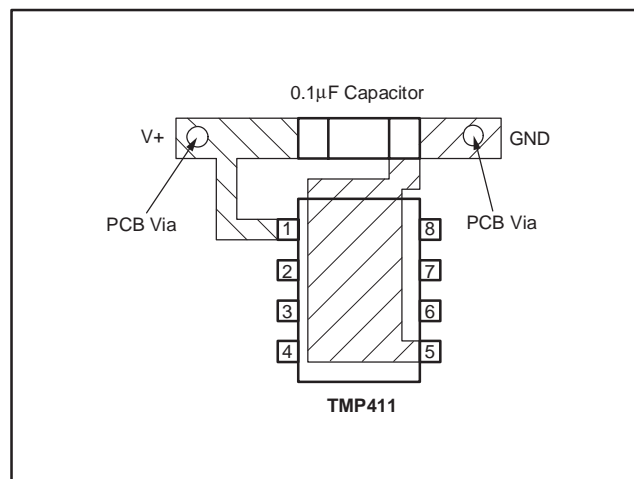

Figure 20. Suggested Bypass Capacitor Placement
4. Use a 0.1µF local bypass capacitor directly between the V+ and GND of the TMP411, as shown in Figure 20. Minimize filter capacitance between D+ and D– to 1000pF or less for optimum measurement performance. This capacitance includes any cable capacitance between the remote temperature sensor and TMP411.